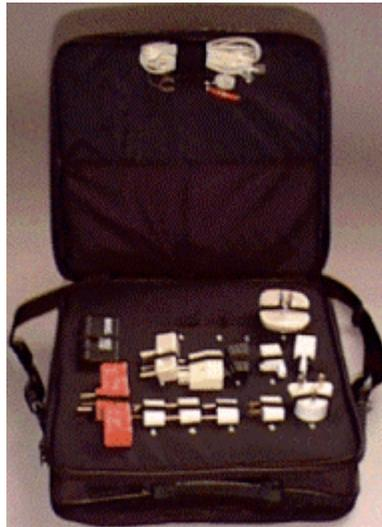

Figure 2 "B" Case
- The “B” case (Figure 2) is a soft case that contains the various telephone and power adapters, and a small tool kit. The A/C adapters for the various components of the system (i.e. computer, printer, etc.) may be carried in this case. This case should be deployed with the GSA Unit.